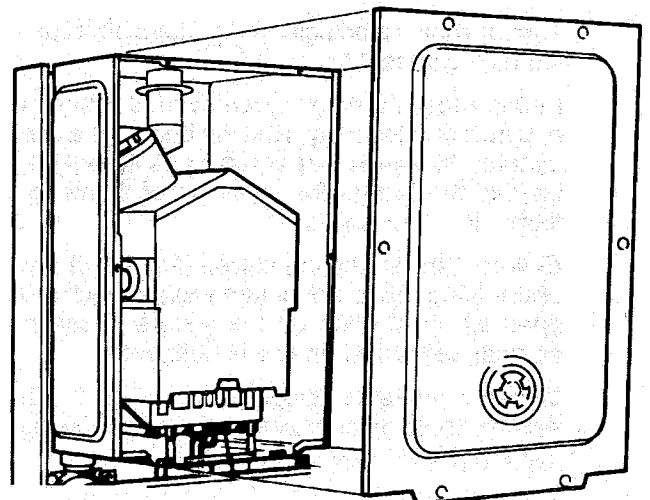

Fig. 24
Refer to fig. 24
8.5.2 Remove roomsealed front cover plate by releasing eight screws (fig. 24) and easing cover off. The screws are not captive. inspect gasket for damage. If damaged, replace.